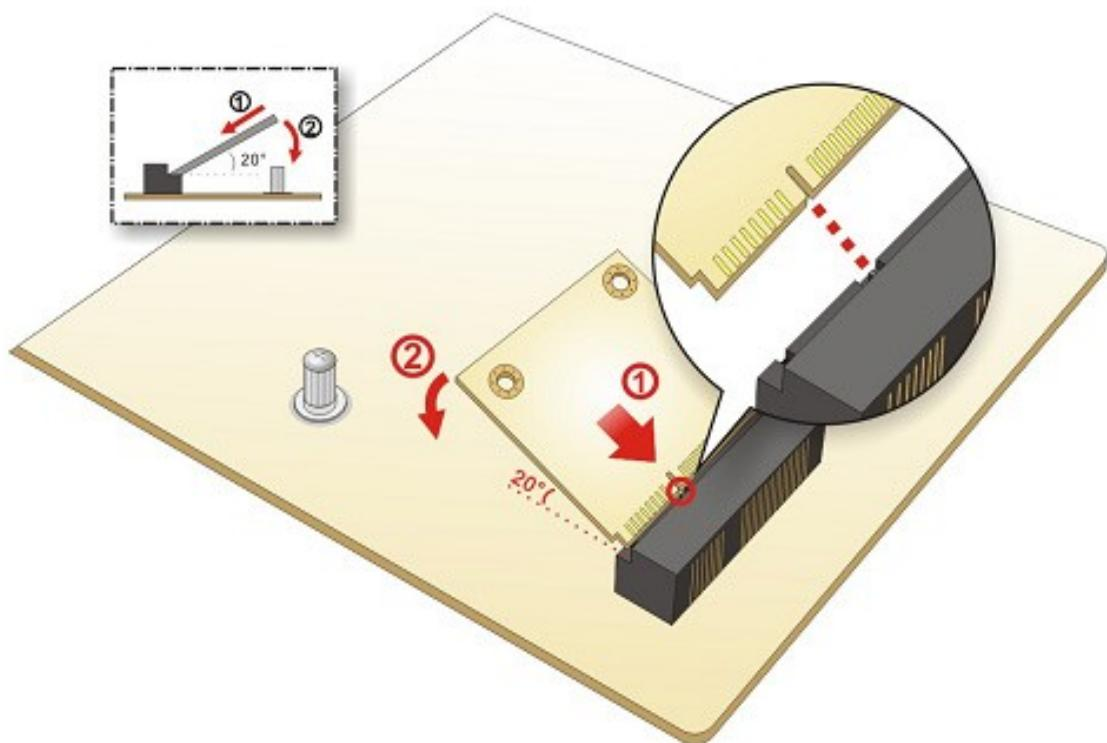

Figure 4-12: Inserting the Half-size PCIe Mini Card into the Slot at an Angle
- Step 3:** Insert into the socket at an angle. Line up the notch on the card with the notch on the slot. Slide the PCIe Mini card into the slot at an angle of about 20° (**Figure 4-12**).